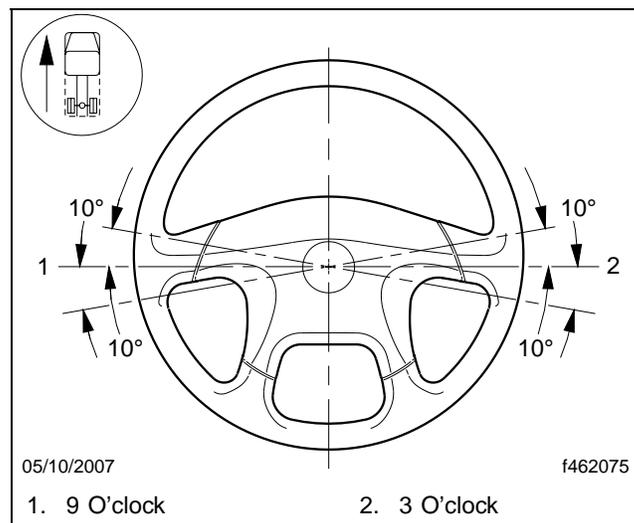

Fig. 5, Steering Wheel Centered
10. Make sure that the steering wheel is within 10 degrees of center as shown in **Fig. 5**. If it is not, remove and center the steering wheel.